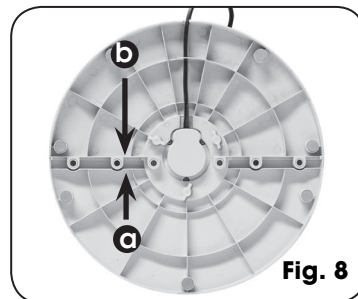
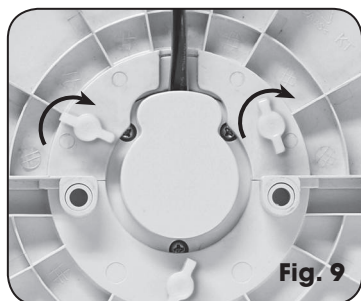

Fig. 8
Fig. 9
4. Position base stand piece (b) with the curved side facing towards the bottom part of the tower fan body, onto base stand piece (a) by interlocking the six locating posts located along the straight edge of each of the base stand pieces and by aligning the two remaining screw holes located underneath the tower fan body with the corresponding screw holes on base stand piece (b). Firmly push down base stand piece (b) until it is secured into place with base stand piece (a) (See Fig. 8). Secure base stand piece (b) with the 2 remaining fastening screws. (See Fig. 9).